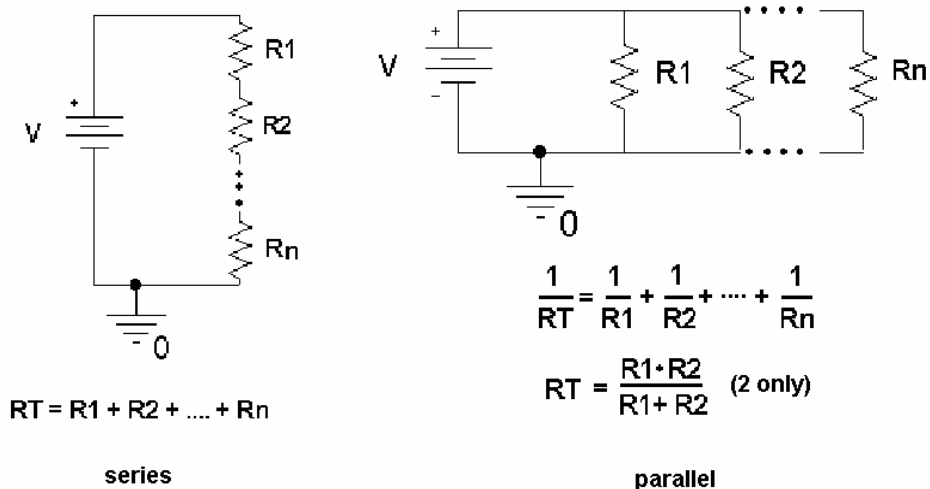

Figure B-3
*Series and Parallel Circuits:* Another fundamental concept we need to understand in order to analyze the circuits we will build is how to mathematically combine resistances. If any number of resistances are connected in series, you simply add them to find the total resistance. If any number of resistances are wired in parallel, the total resistance is the reciprocal of the sum of the reciprocals of all of the resistances. This is summarized in figure B-3.